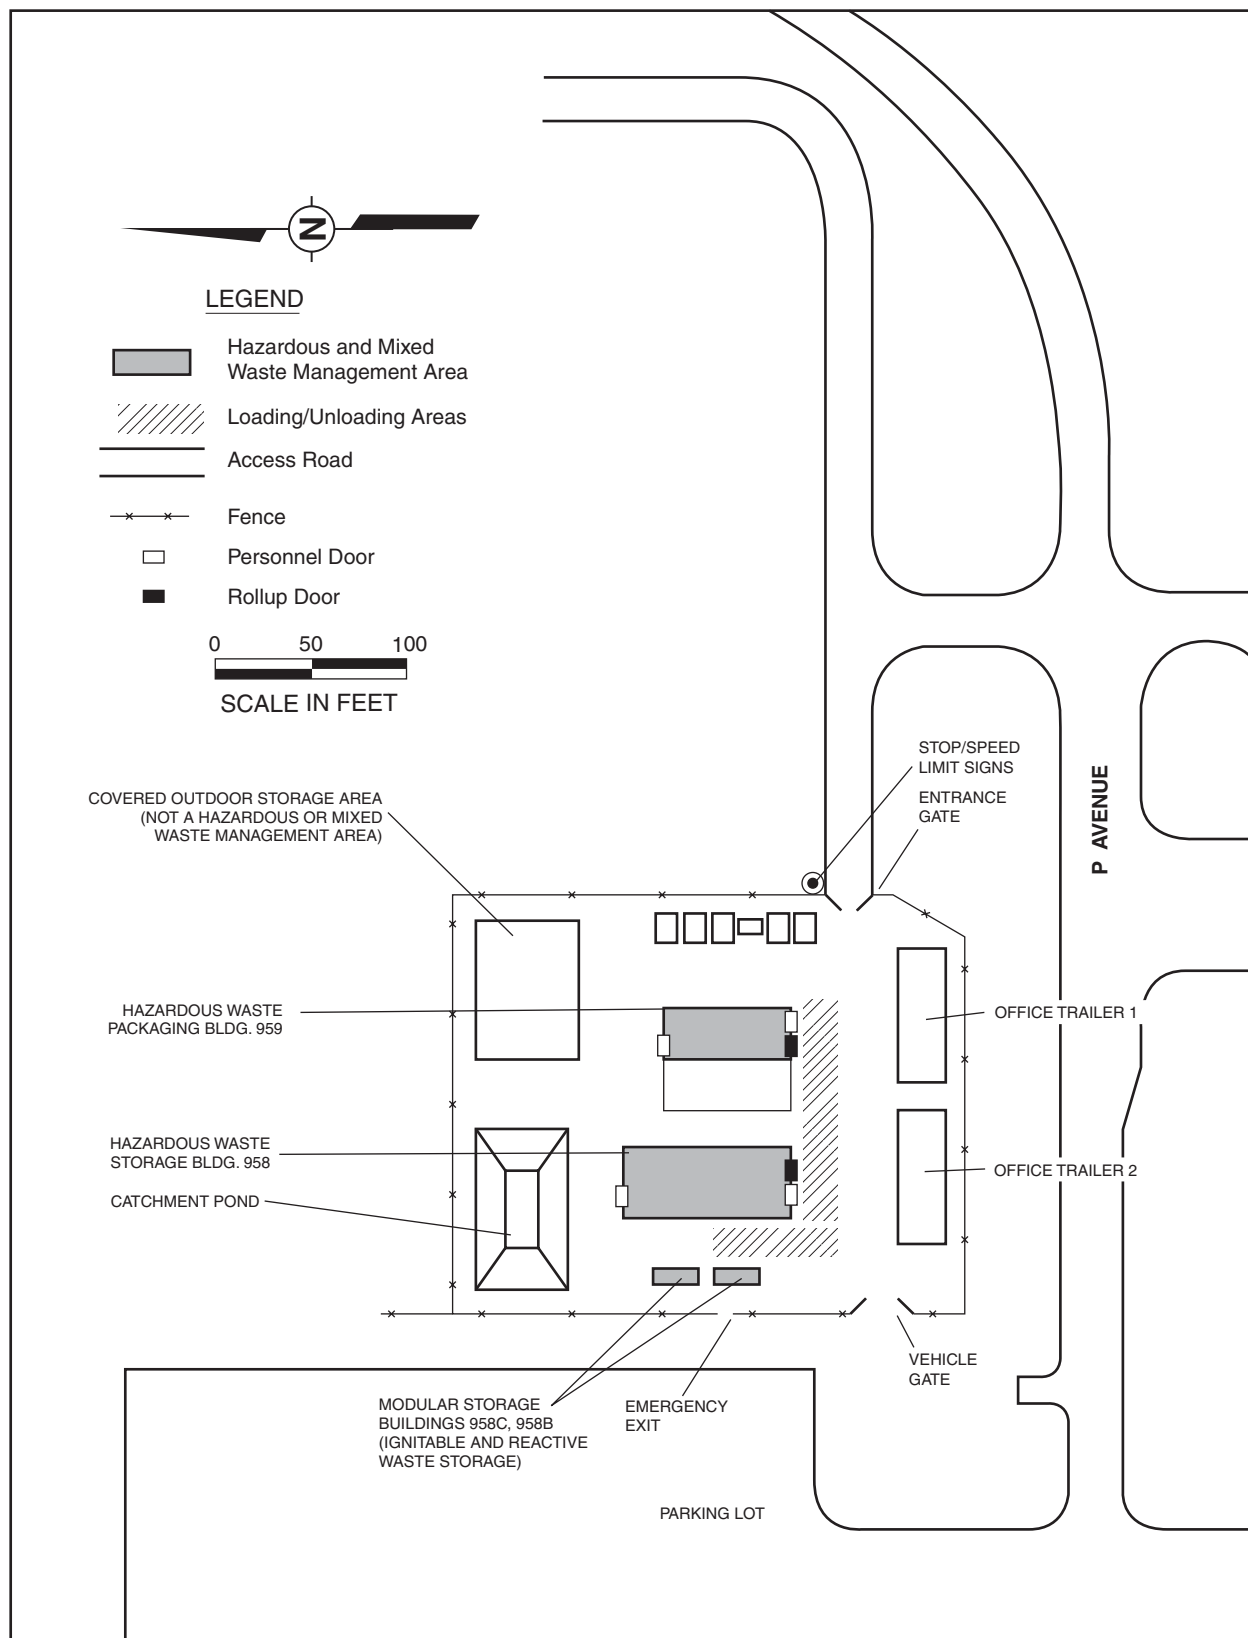

Figure 7
- Figure 7: Hazardous Waste Handling Unit Access Control Features and Loading/Unloading Areas